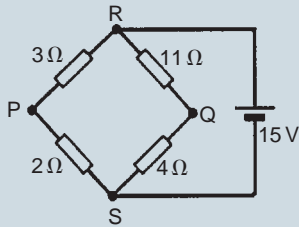

Figure 15.93
8. With reference to Fig. 15.93, which of the following statements is correct?
9. In Fig. 15.93, if the 15V battery is replaced by a short-circuit, the equivalent resistance across terminals PQ is: